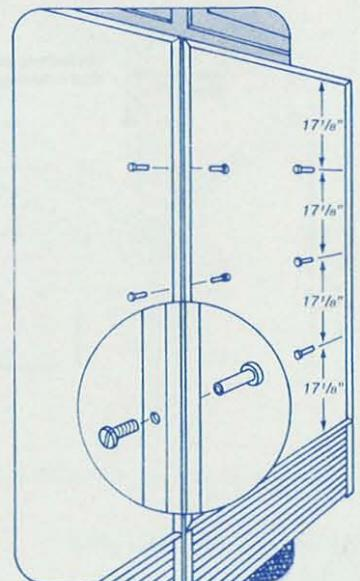

Figure 24
Figures 24 and 25 are examples.
Instructions for product being tied together (see Figure 24):
- 4) Drill three (3) $\frac{3}{16}$ " holes (per specs in Figure 24) through both outer trims.
- 6) Install all six (6) Sems to the cabinetry.